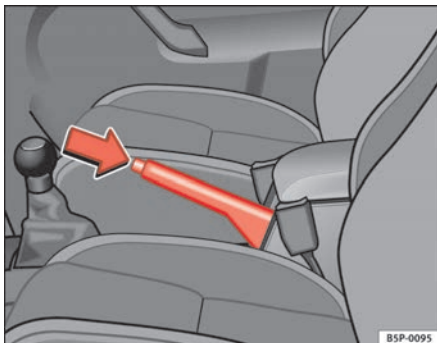

Fig. 105 Handbrake between the front seats
- Pull the handbrake lever up firmly ⇒ fig. 105.
- Pull the lever up slightly and press the release knob in the direction of the arrow ⇒ fig. 105 and guide the handbrake lever down fully ⇒ ⚠.